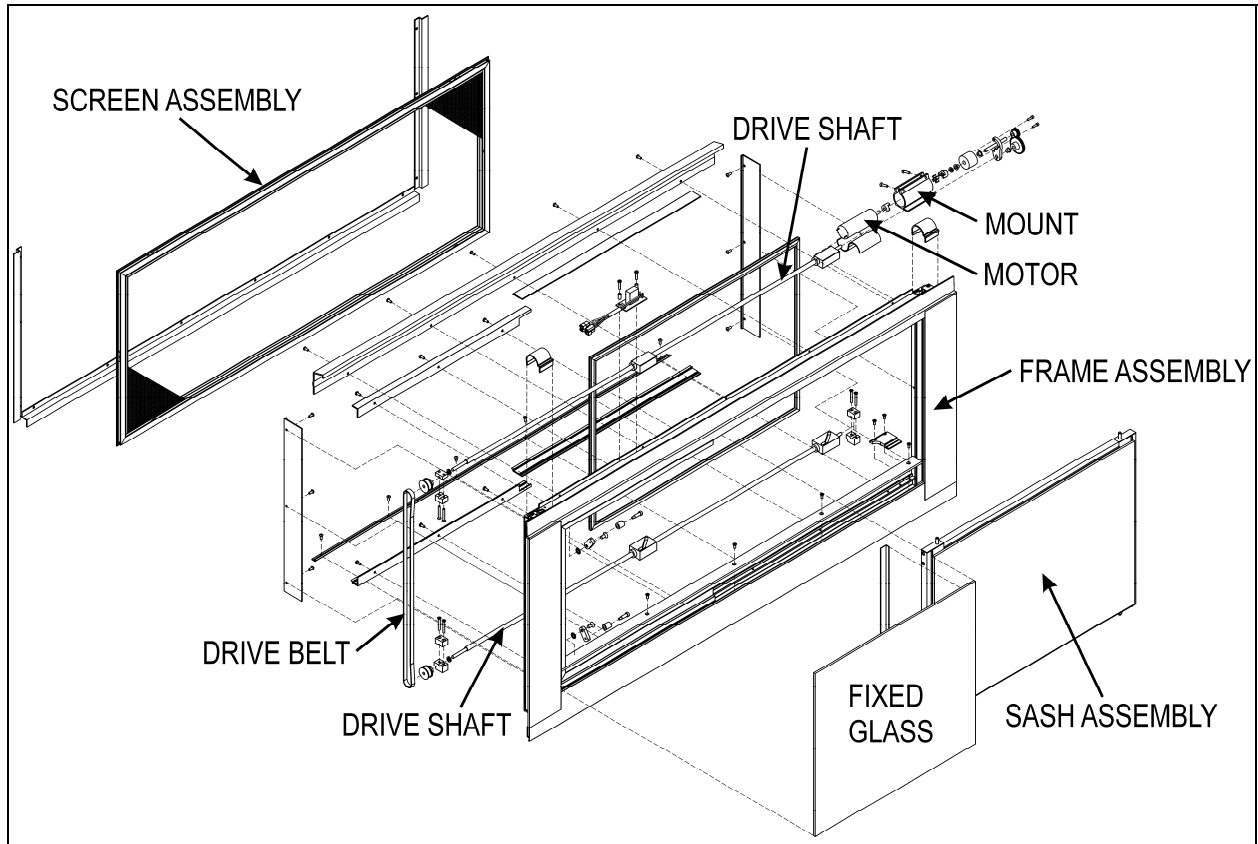

FIGURE 40: ELECTRIC SLIDING WINDOW EXPLODED VIEW
4. Loosen the set screws #5 (figure 40)(rotate the arm to get to the second set screw) and disengage the swiveling arm from the motor shaft extension.